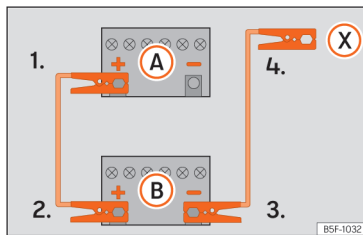
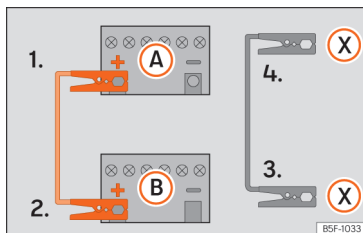

Fig. 155 Wiring diagram for vehicles without a start/stop system.
Fig. 156 Wiring diagram for vehicles with a start/stop system.
The jump leads should only be connected in the order **1 > 2 > 3 > 4** »» Fig. 156.
2. Connect one end of the *red* jump lead to the positive (+) terminal of the vehicle with the flat battery (A).
3. Connect the other end of the *red* jump lead to the positive terminal (+) in the vehicle providing assistance (B).
4. *Vehicles without a Start-Stop system:* connect one end of the black jump lead to the negative terminal (-) of the vehicle providing the current (B) »» Fig. 155. *Vehicles with a Start-stop system:* connect one end of the black jump lead (X) to a suitable ground terminal, to a solid piece of metal in the engine block, or to the engine block itself »» Fig. 156.
5. Connect the other end of the *black* jump lead (X) to a solid metal component bolted to the engine block or to the engine block itself of the vehicle with the flat battery. Do not connect it to a point near the battery A.